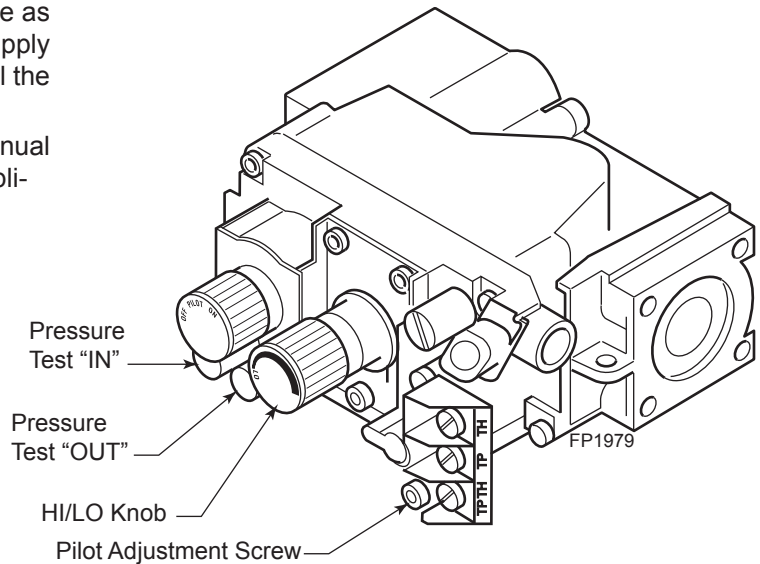

Figure 34 - Gas Pressure Check at Gas Valve
5. To check gas pressures at valve, turn captured screw counter clockwise 2 or 3 turns and then place tubing to pressure gauge over test point. Turn unit to high. *Figure 34*. After taking pressure reading, be sure and turn captured screw clockwise firmly to reseal. Do not over torque. Check test points for gas leaks.